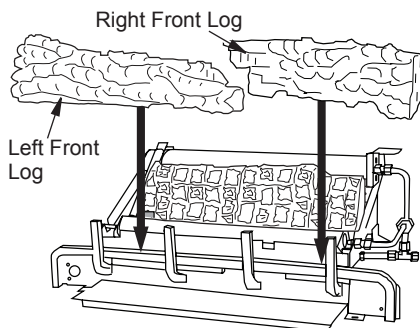

Figure 35 - Installing Left/Right Front Logs
2. Place front left and front right logs as shown in Figure 35.